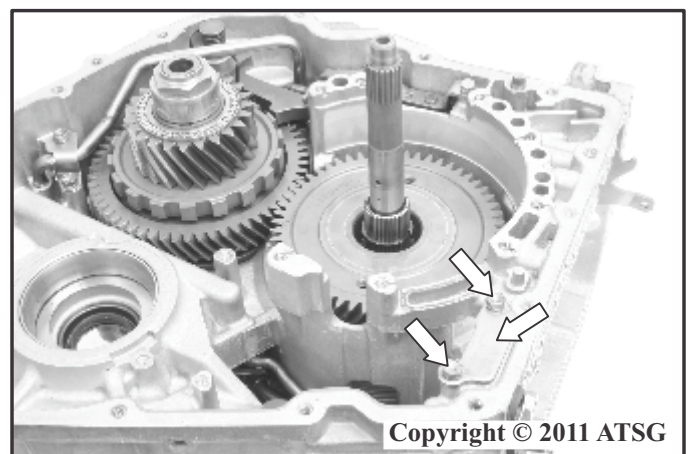

Figure 38
46. Remove the two transmission case fluid passage cover retaining bolts as shown in Figure 38.
47. Remove the transmission case fluid passage cover as shown in Figure 38.